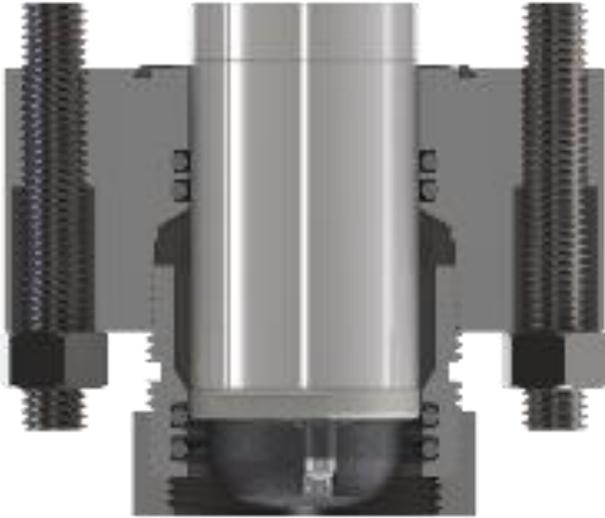

Figure 7. Cross-Section of Cap with sensor end pushed passed both internal O-rings.
6. Open the ball valve and insert sensor mater assembly completely into the process water stream using the remover tool and hex nuts. Mater should be completely flush with cap (as in figure 7).